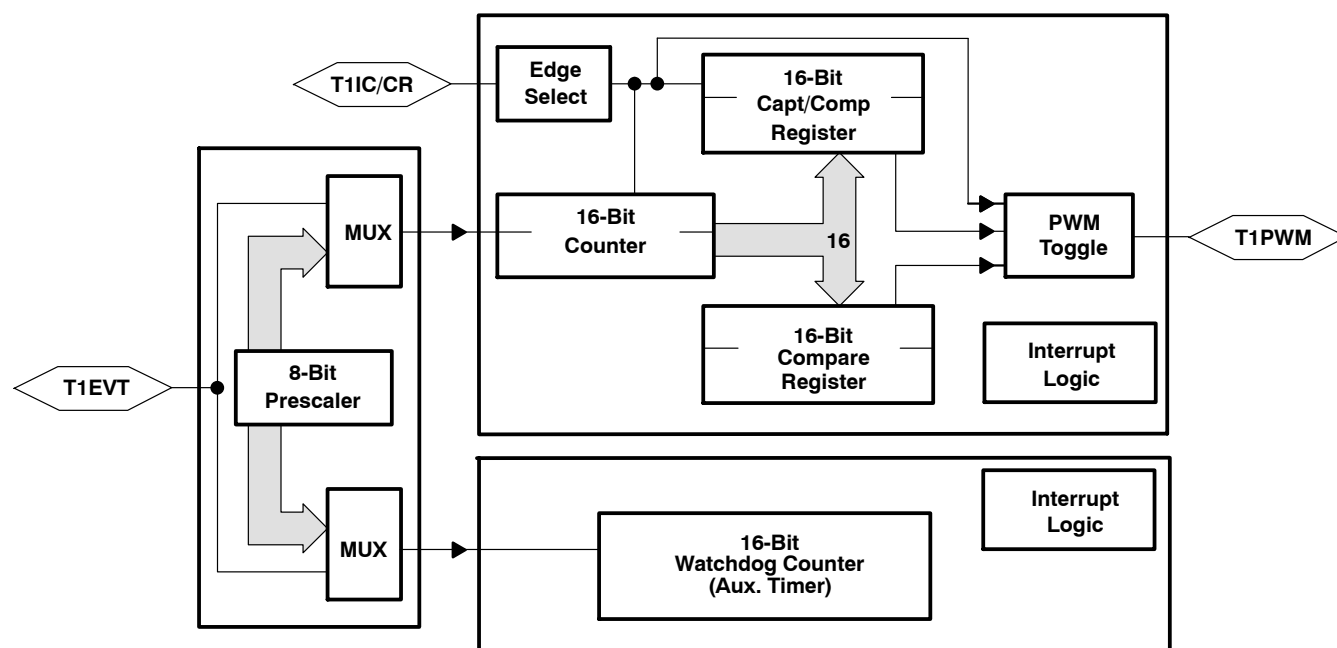

Figure 6. Timer 1 Block Diagram
The programmable Timer 1 (T1) module of the TMS370Cx0x provides the designer with the enhanced timer resources required to perform real-time system control. The T1 module contains the general-purpose timer and the watchdog (WD) timer. The two independent 16-bit timers (T1 and WD) allow program selection of input clock sources (real-time, external event, or pulse accumulate) with multiple 16-bit registers (input capture and compare) for special timer function control. The timer 1 module includes three external device pins that can be used for multiple counter functions (operation mode dependent) or used as general-purpose I/O pins. The T1 module block diagram is shown in Figure 6.